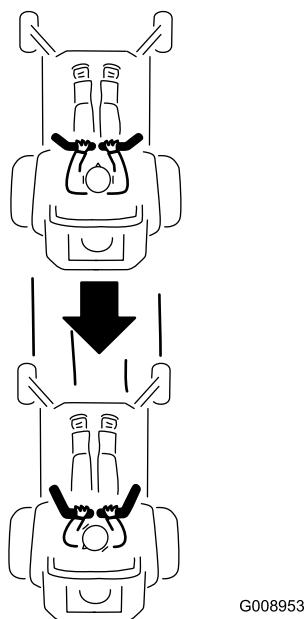

Figure 19
- To go backward, slowly pull the motion-control levers rearward (Figure 19).